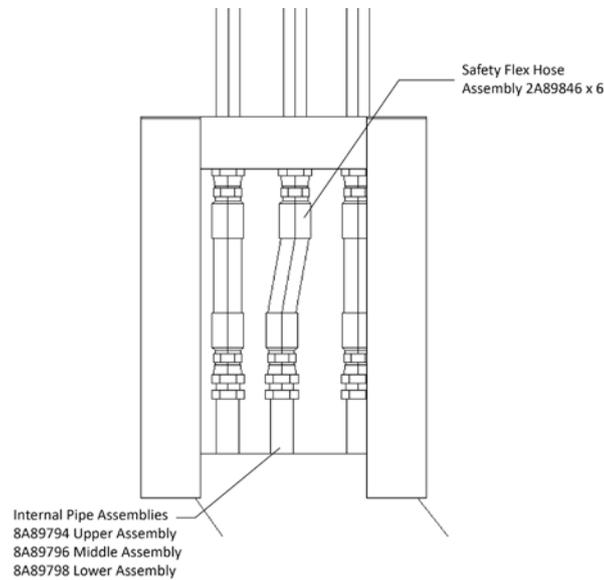

Figure 12. Safety Hose Position
- Fit the safety flexible hose assembly between the delivery pipes assembly (from the sump) and the vertical pipes assembly, as shown in Figure 12.